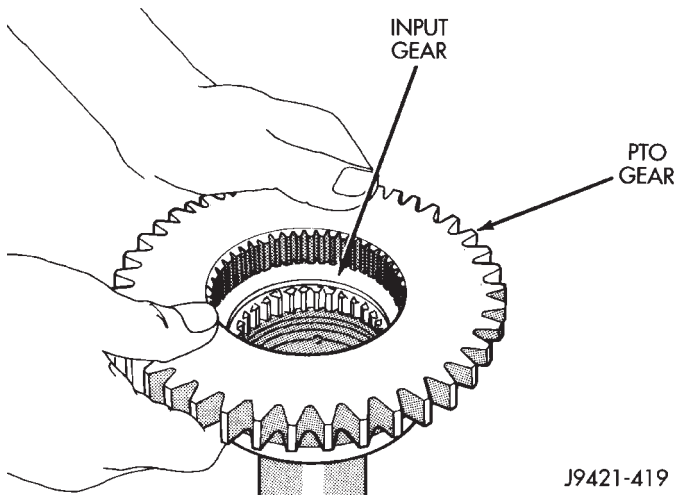

Fig. 52 Assembling Input And PTO Gears
- (7) Install PTO gear on input gear (Fig. 52).